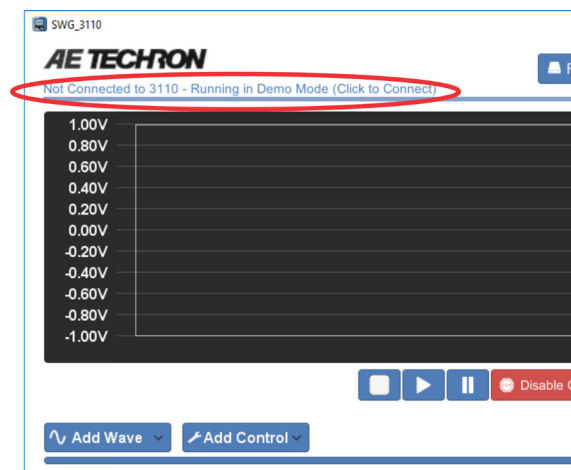

Figure 4.4 – Remote Connection to the 3110A/DSR System
- When the program has been installed and loaded, the notice *"Not Connected to 3110A - Running in Demo Mode (Click to Connect)"* will be displayed in the upper left of the window (see **Figure 4.4**). Click the message to open the connection dialog, and then type the 3110A IP address you wrote down into the IP Address text box. Press OK to connect to the remote 3110A/DSR system. The remote 3110A's dis-